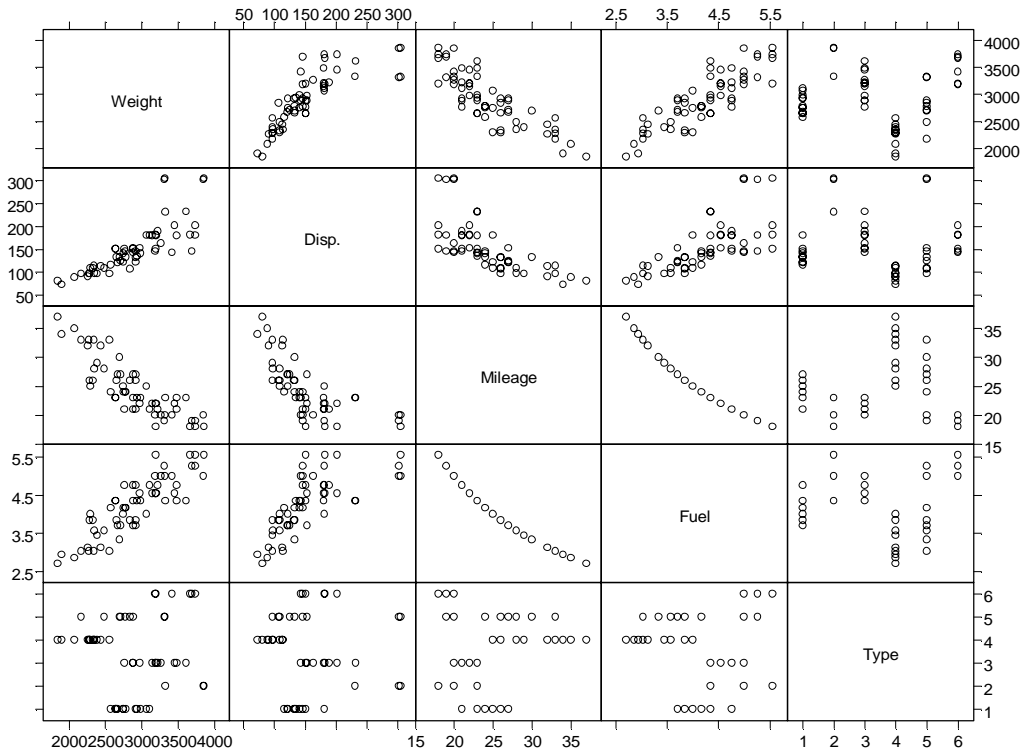

Figure 3.30: Scatterplot matrix of the `fuel.frame` data. A number of strong relationships appears.
- Click the **Scatter Matrix**  button on the **Plots 2D** palette. The resulting scatterplot matrix is shown in Figure 3.30.
Now let's add histograms of the five variables displayed in Figure 3.30:
S-PLUS can fit a variety of lines through our scatter plots. We can fit least squares, robust, kernel, loess, and smoothing splines through the matrix plots. For example, to add least squares lines to Figure 3.30, do the following: